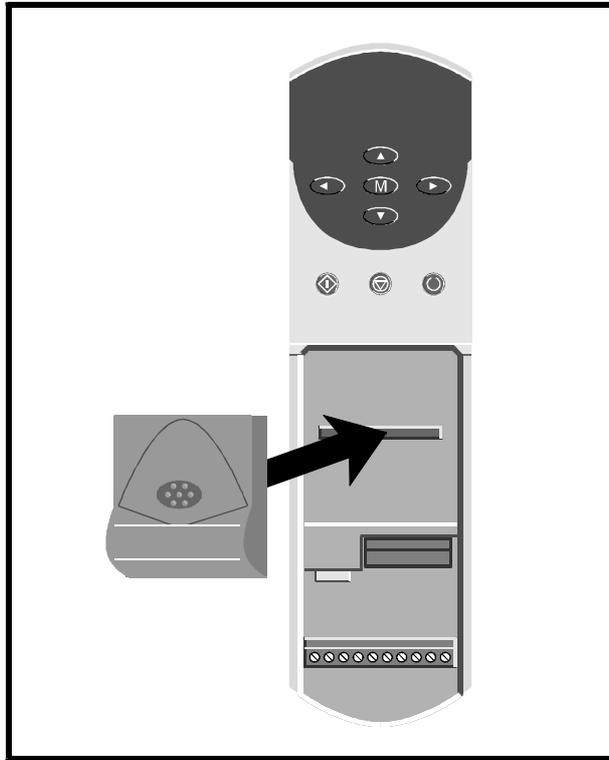

Figure 1 *Installing the UD53 in the Unidrive*
- 4 Position the multi-way connector on the rear of the UD53 over the connector in the Drive (see Figure 1), and press on the thumb pad to push the UD53 into place.